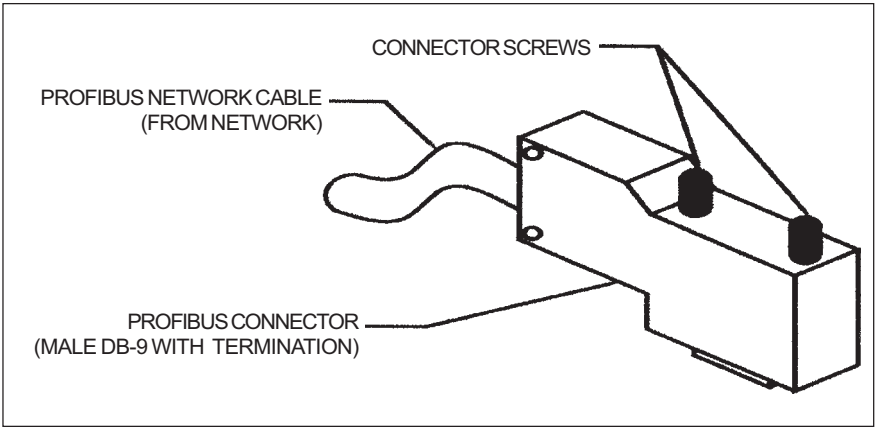

Figure 2-5. Connector with Termination Resistors
- (6) To terminate the network at the option unit, install termination resistors at the terminal block as shown in Figure 2-5. Each PROFIBUS network has two ends. Units at both of those ends must be properly terminated.